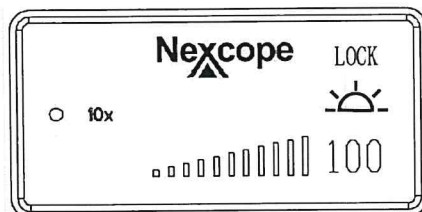

Fig.7
3. Double-click Knob: lock brightness or unlock (Fig.7). The brightness adjustment knob fails when locking, and "LOCK" appears on the LCD screen; "LOCK" means that the user sets specific brightness when using a certain magnification objective, and uses the lock function to prevent it from being changed by another user. (In this case, when switching to another magnification objective, the brightness automatically changes to the brightness of the corresponding magnification, but the brightness adjustment knob fails. Double-click the knob again to release the lock and the "LOCK" on the screen disappears.